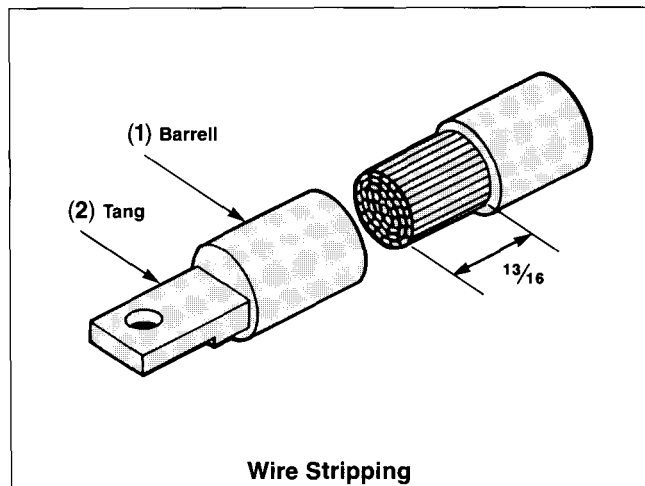

Figure 1
- Preform cables to final configuration and strip insulation back $\frac{13}{16}$ in. on each conductor. Use an appropriate insulation stripping tool to avoid damaging the conductor. (See Figure 1.)
- Remove cap from compression connector and insert cable fully into barrel (1) (Figure 1) of connector.
- Insure that connector tang(s) (2) (Figure 1) are in their proper orientation prior to crimping. This helps avoid twisting of cables during installation.